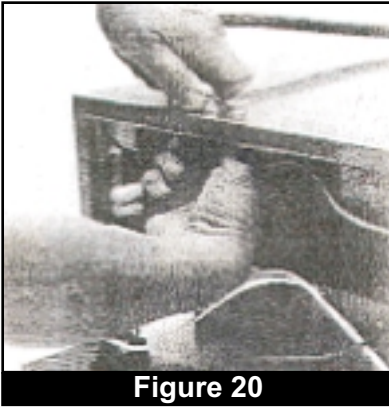

Figure 20
5. Remove elbow connector that secures power cord into the heating module by grasping the nut holding the connector (under the overhang of the heating module). Rotate the nut to loosen and remove the elbow from the module. (Fig. 20)